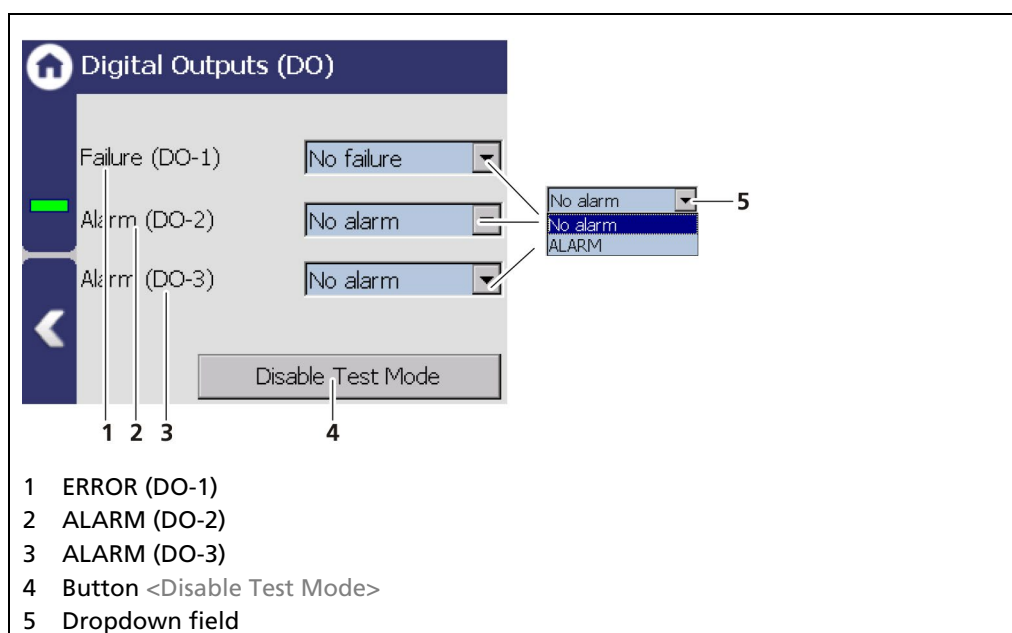

Fig. 127 Simulation Digital Outputs
1. Click on the dropdown field (Fig. 127, item 5) and select "FAILURE" or "ALARM" for the simulation.
2. Click on the < Disable Test Mode > button (Fig. 127, item 4) to stop the simulation.